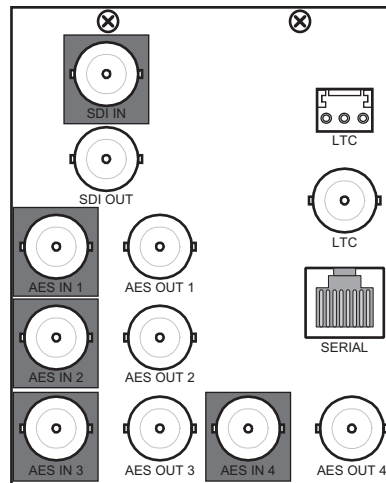

Figure 5.1 Cable Connections for the NWE-3GA
The NWE-3GA is used with the 8320AR-060 rear module in the openGear frame. Each rear module occupies four slots and provides one SDI input, one SDI output, four unbalanced AES3id inputs, four AES3id outputs, a balanced LTC connection, an unbalanced LTC connection, and a serial communications port. Refer to **Figure 5.1** and the rear module label for connector locations.
1. Connect the appropriate input AES sources to the **AES 1-4** BNC connectors. Refer to **Figure 5.1** and the rear module label for connector locations.
1. Locate the LTC ports on the 8320AR-060 rear module. Refer to **Figure 5.1** and the rear module label for connector locations.
- the location of the **Serial COM** port on the rear module, refer to **Figure 5.1**.
1. Connect the automation computer to the **Serial COM** port on the 8320AR-060 rear module using the **Serial Interface Cable**. Refer to **Figure 5.1** for the port location.